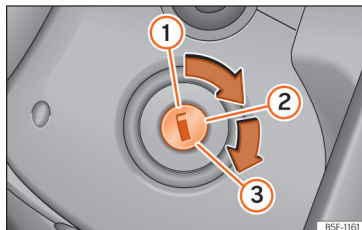

Fig. 84 Ignition lock
- Turn the key to position **»» Fig. 84 ②**.
- Keep turning the key to position **»» Fig. 84 ③** without pressing the accelerator.
- Once the engine starts, release the key. When it is released, the key returns to position **②**.
- Vehicles with ignition locks: Turn the key to position >>> Fig. 84 .
- Vehicles with start buttons: Briefly press the start button >>> Fig. 84.